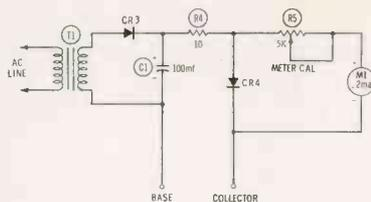

Fig. 3. Leakage test—NPN range.
2. Trace moves from left to right across CRT screen, but no vertical sweep.	<ol style="list-style-type: none"> <li>1. Check the probe.</li> <li>2. If another scope is available, monitor waveforms at test points 1 through 8 in Fig. 3. With a VTVM, check voltages at test points 1A through 6A.</li> <li>3. Be sure wafer contacts on vertical attenuator switch are clean and making good contact. Check compensation networks for value changes, although value changes in these circuits should show up as poor frequency response.</li> </ol>
The leakage test is shown in Fig. 3. This circuit is also quite simple since it is nothing more than a continuity test of the Base-Collector junction. Note though, in the photo (Fig. 1), that the leakage scale is linear to a midscale reading of 100 microamps, and then becomes semi-logarithmic in the second half, to a fullscale reading of 5 milliamps. This is accomplished by CR4 and R5. Remember that most diodes do not conduct until a certain amount of forward bias is applied—usually about 0.5 volt. They then conduct in a semi-logarithmic fashion. If CR4 is chosen so that it just begins to conduct when the meter is at midscale, it will take an increasing share of the current as the current is increased.